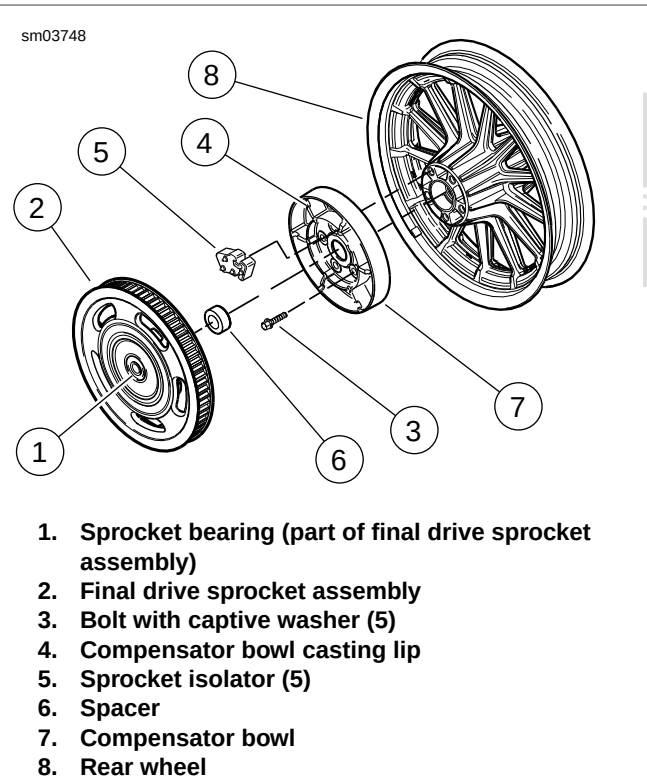

Figure D-1. Compensating Sprocket
2. See Figure D-1. Remove final drive sprocket assembly (2) and spacer (6).
3. Pull sprocket isolators (5) from compensator bowl (7).
1. See Figure D-1. Wipe inside of compensator bowl (7) and final drive sprocket (2) with a clean, damp cloth.
2. Inspect sprocket bearing (1). If bearing surface is rough or if bearing was leaking grease, replace bearing. See D.1 COMPENSATING SPROCKET, Sprocket Bearing Replacement.
3. Inspect sprocket isolators (5) for damage, deterioration, missing chunks or excessive debris beyond normal wear marks. Replace if necessary.
- See Figure D-1. Only remove compensator bowl (7) from rear wheel (8) if necessary. Bolts (3) are one-time usage only. If removed, they must be discarded and replaced with **new** bolts.
1. See Figure D-1. If compensator bowl (7) was removed, install bowl onto rear wheel with **new** bolts with captive washers (3). Tighten bolts as follows:
3. See Figure D-1. Install spacer (6) by placing on bowl casting lip (4).